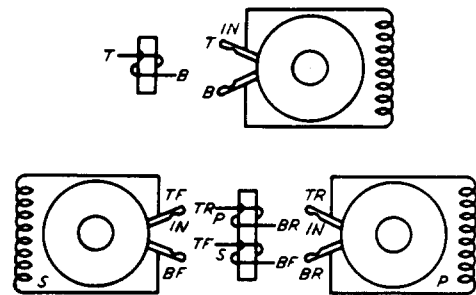

Fig. 44 — Winding Terminal Arrangement as Viewed From the Rear — 225-Type and Similar Automatic Electric Company Pivot Type Relays
2.52 The winding terminals are indicated by T (top) and B (bottom) with the spring combination uppermost. On relays with more than two winding terminals, the letters T and B are followed by the letters F (front) and R (rear), the armature end of the relay being considered the front. The springs in an assembly are consecutively numbered outward from the frame on which the assembly is mounted. Fig. 44 shows the winding terminal arrangement as viewed from the rear.